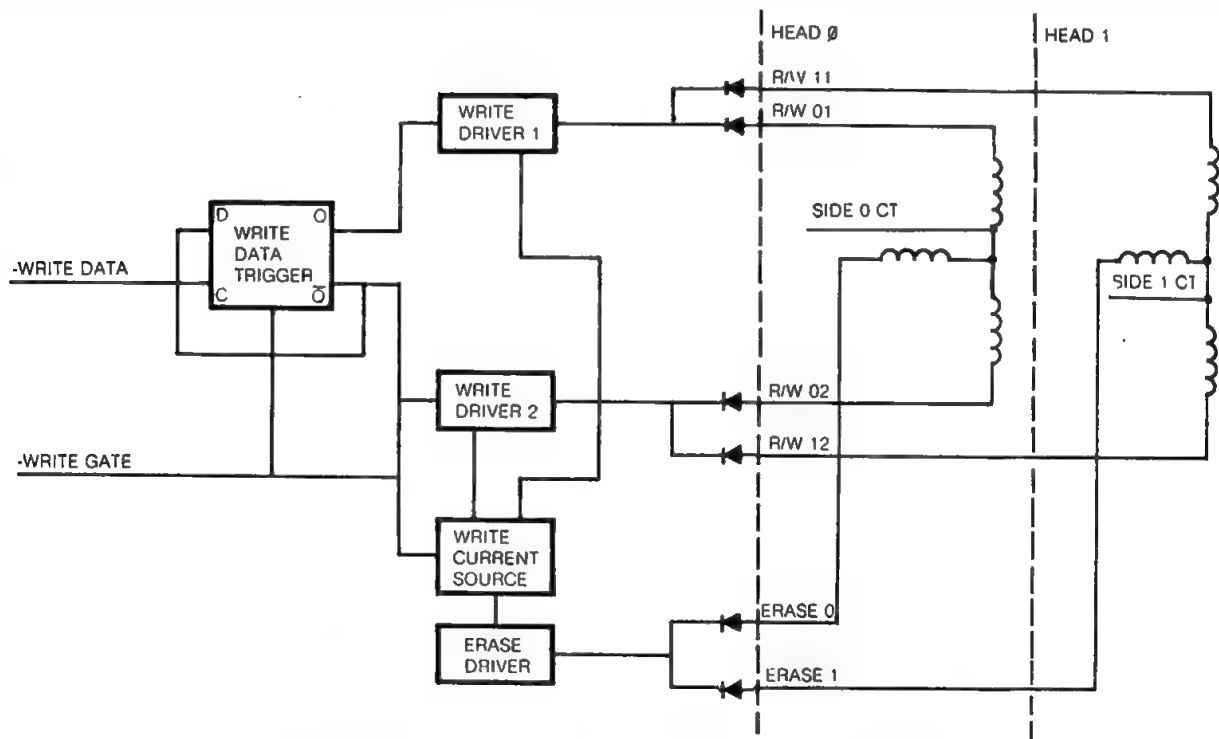

FIGURE 21. WRITE CIRCUIT FUNCTIONAL DIAGRAM
1.16 WRITE CIRCUIT OPERATION (FIGURE 21)